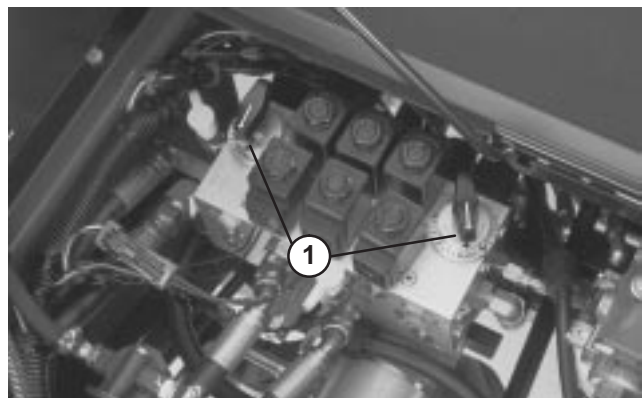

Figure 32
4. To set reel speed, rotate knobs (Fig. 32) until indicator arrows are in line with the number designating desired setting.